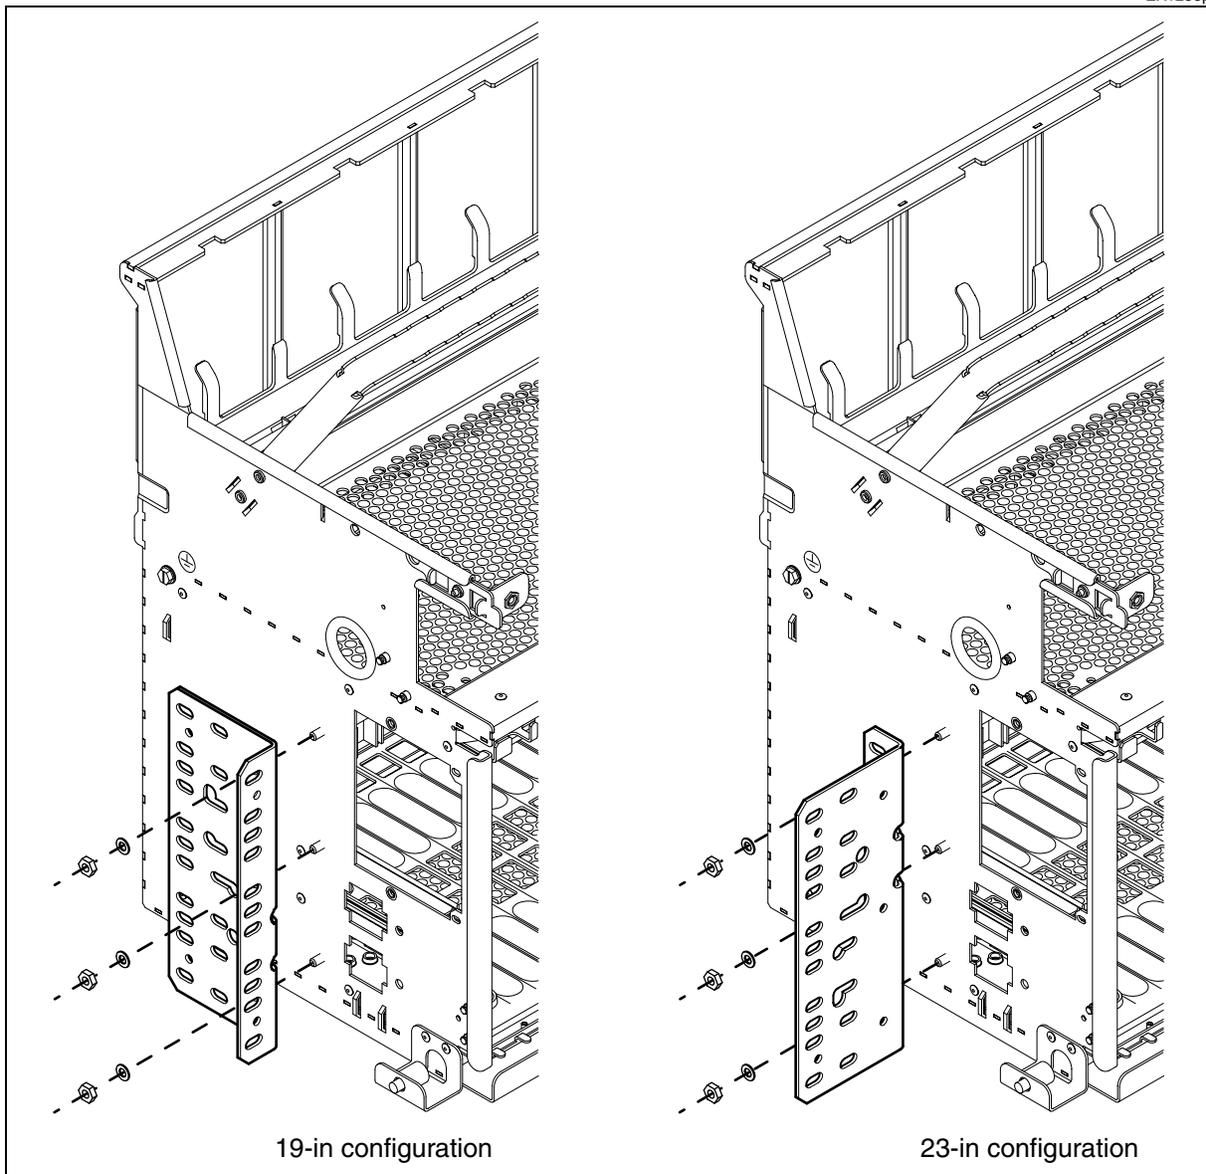

Figure 3-28
- 5 Mount the shelf on the equipment frame using the alignment studs and four #12-24 self-tapping screws; see Figure 3-28 on page 3-67.